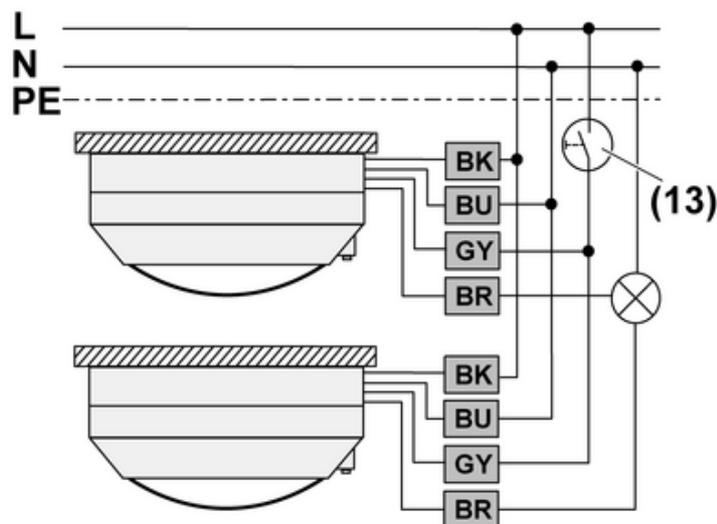

Figure 7: Connection diagram for connection in parallel
- Connect presence detector according to connection diagram (Figure 7).
- Connect optional installation button (13) to all presence detectors (Figure 7). This is only necessary if manual operation is also desired.